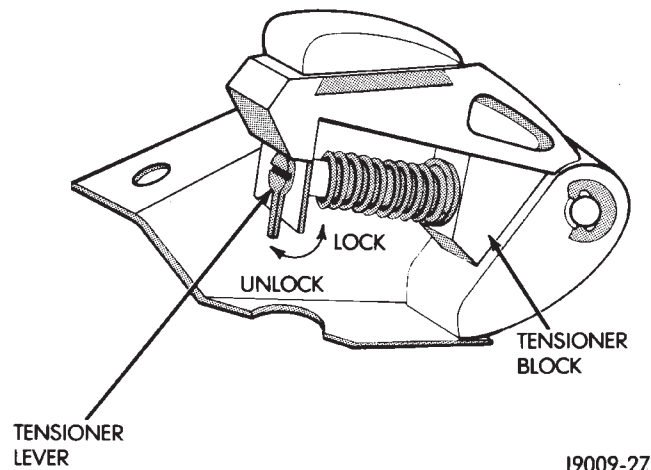

Fig. 45 Loading Timing Chain Tensioner
(1) Turn the tensioner lever to the unlocked (down) position (Fig. 45).
(2) Pull the tensioner block toward the tensioner lever to compress the spring. Hold the block and turn the tensioner lever to the lock position (Fig. 45).
- (6) Turn the chain tensioner lever to the unlocked (down) position (Fig. 45).
- (7) Install the oil slinger.
- (8) Replace the oil seal in the timing case cover.
- (9) Install the timing case cover and gasket.
- (10) With the key inserted in the keyway in the crankshaft, install the vibration damper, washer and bolt. Lubricate and tighten the bolt to 108 N·m (80 ft. lbs.) torque.
- (11) Install the fan and shroud.
- (12) Connect negative cable to battery.